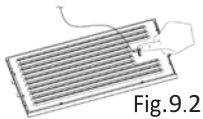

Fig.9.2
- To remove, always hold the baffle filter with one hand while depressing the handle and pull down the filter by the other hand. Remove the filter by unlocking the hook.(Fig. 9.2)